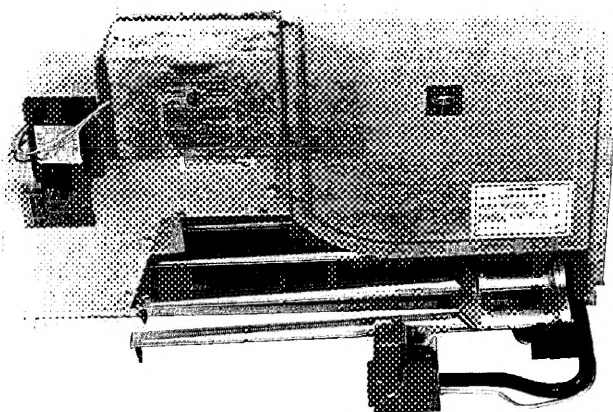

Fig. 5 — Burners Removed From Furnace
Regardless of the type of gas used, when installation is at an elevation of 2000 ft or more above sea level, orifices may need to be changed, depending on local gas value. For operation at elevations above 2000 ft, input ratings should be reduced at the rates of 4% for each 1000 ft above sea level. To change orifices, remove the burner removal cover on the gas valve side of unit. Remove manifold locking device and slide the manifold tray back until each burner is clear of heat exchanger tube. See Fig. 5 Pull the manifold tray forward until burners are clear of furnace. Remove the locking device from each burner and pull each burner back off the orifice.
3. Remove the manifold locking device and slide the burner and manifold assembly back towards the furnace inlet until the burners are clear of the heat exchanger tubes. See Fig. 5.